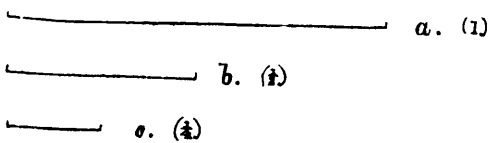

Fig. 11
9. Scales.—In fig. 11 let *a* represent a line two inches long, *b* one inch long, and *c* one half-an-inch long; then if *b* represents a drawing of the line *a*, the scale would be  $\frac{1}{2}$ , or 6" = 1 foot; if *c* represents *a*, then the scale would be  $\frac{1}{4}$ , or 3" = 1 foot, and so on.